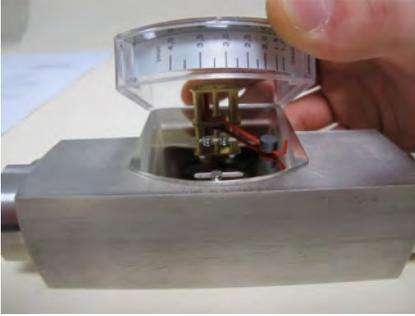

Fig. 38
2. Carefully remove the display cover plate along with the plastic housing from the base plate. (Fig. 38). Make sure that the pointer mechanism is not damaged.